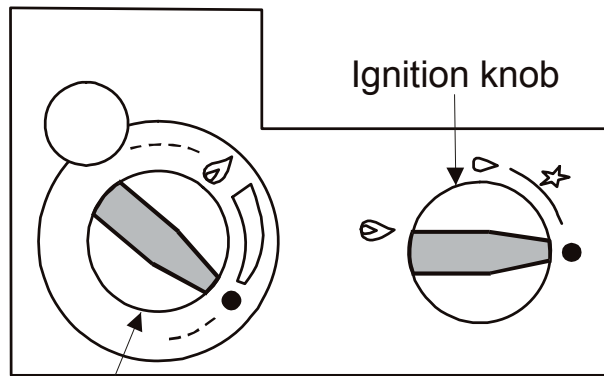
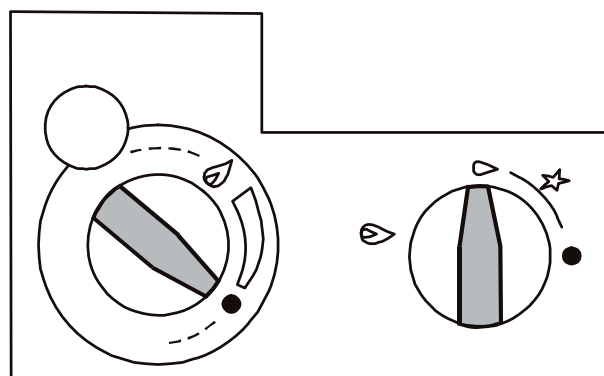

Figure 7 - Off Position
Figure 8 - Pilot burner only
1. Whilst pushing the IGNITION KNOB in (see **Figure 7**), turn it anticlockwise to the pilot flame position as shown in **Figure 8**. During this process, the spark ignition will have operated and lit the pilot flame. On lighting the pilot flame continue to depress the ignition knob for a further 10 - 12 seconds then slowly release. The pilot flame should stay alight. If the flame goes out repeat the procedure above to establish the pilot.
7. To switch off the main burner turn the IGNITION KNOB to the 'Pilot burner only Position' as shown in **Figure 8**. The appliance may be left in this standby mode if desired.